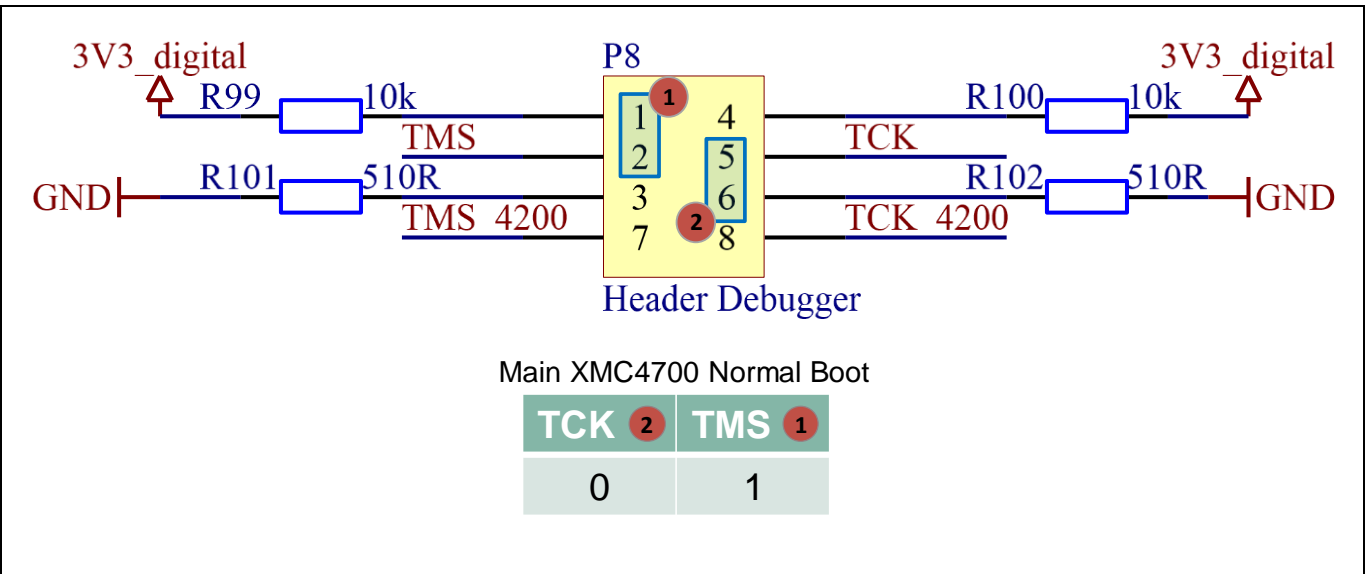

Figure 4 P8 header configuration for using battery or external power supply
1. Configure the P8 header as shown in Figure 4 (1, 2 connected and 5, 6 connected).